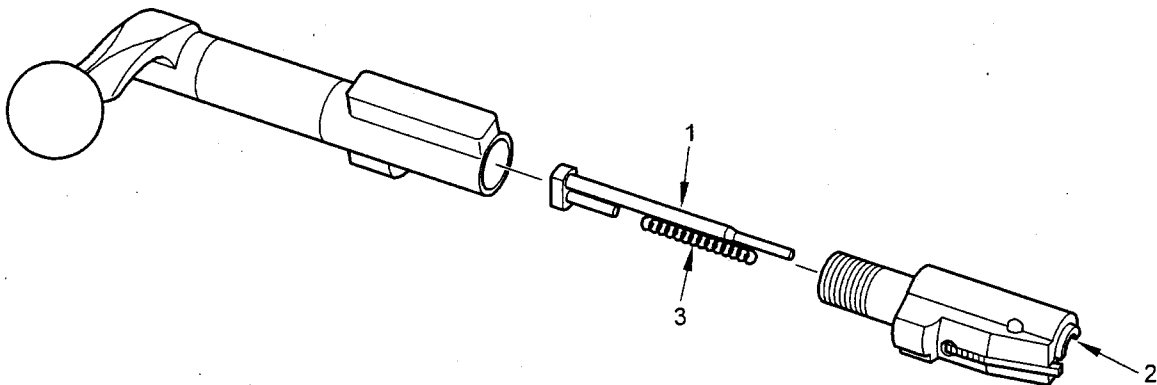

Fig 2 Strip the bolt
6.4 To strip the bolt: Unscrew the bolt head (Fig 2 (2)), and pull out the firing pin (1) and the firing pin spring (3).
- 7.1 Insert the firing pin (Fig 2 (1)) and firing pin spring (3) into the bolt.